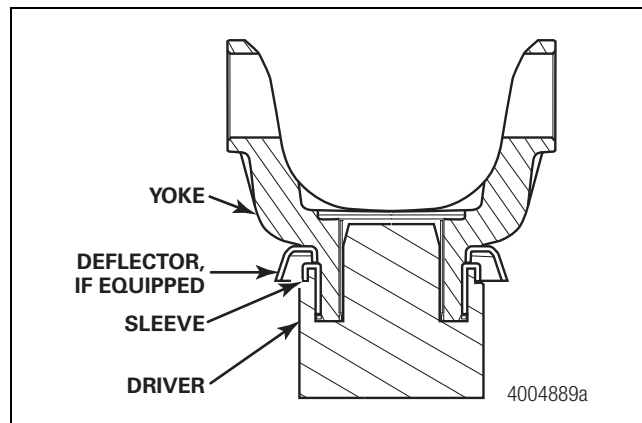

Figure 3
3. Install the deflector, if equipped, onto the yoke. You must install the deflector before you install the sleeve into the yoke. Figure 3.